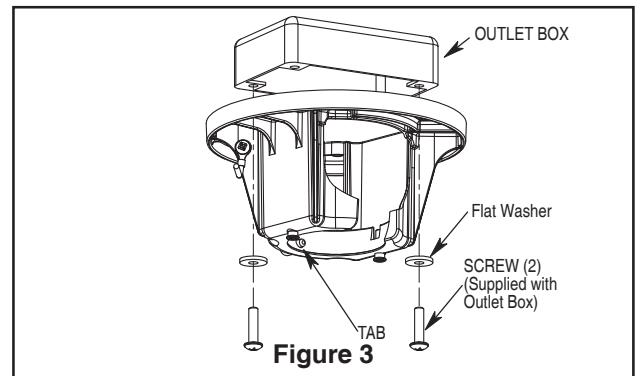

Figure 3
- 1. Securely attach the hanger bracket to the outlet box using the outlet box screws and washers supplied with the outlet box (Figure 3).